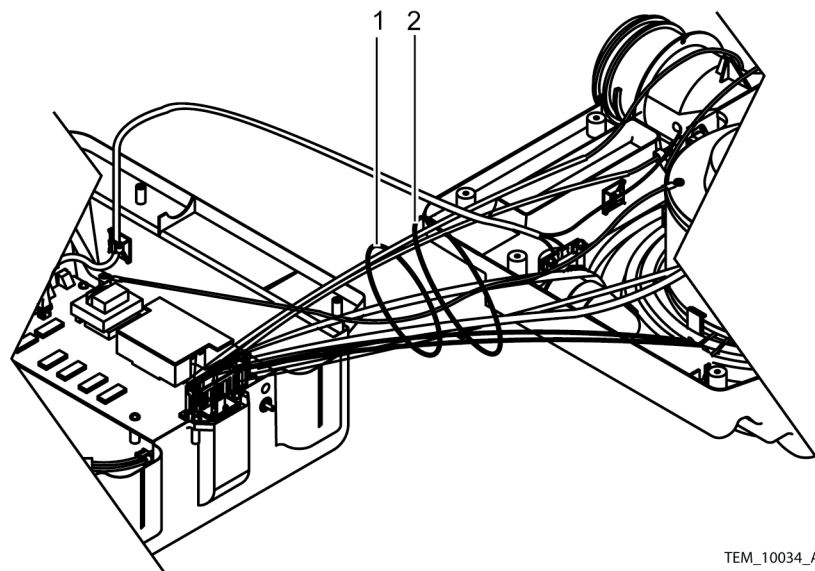

Figure 5-18. Cable Harness Bundle Ties
29. Install the cable harness bundle ties. See Figure 5-18.